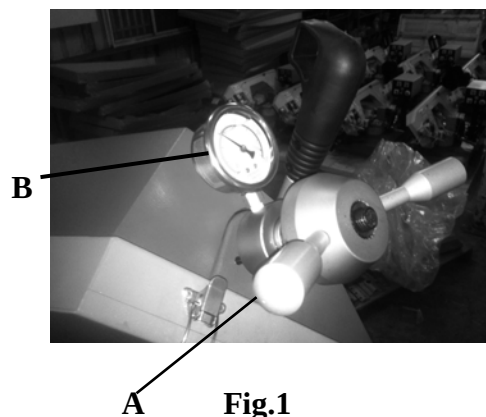

Fig.1
To tension the blade, turn the blade tension handle (fig. 1)(A) clockwise. To set up at the middle of green position .